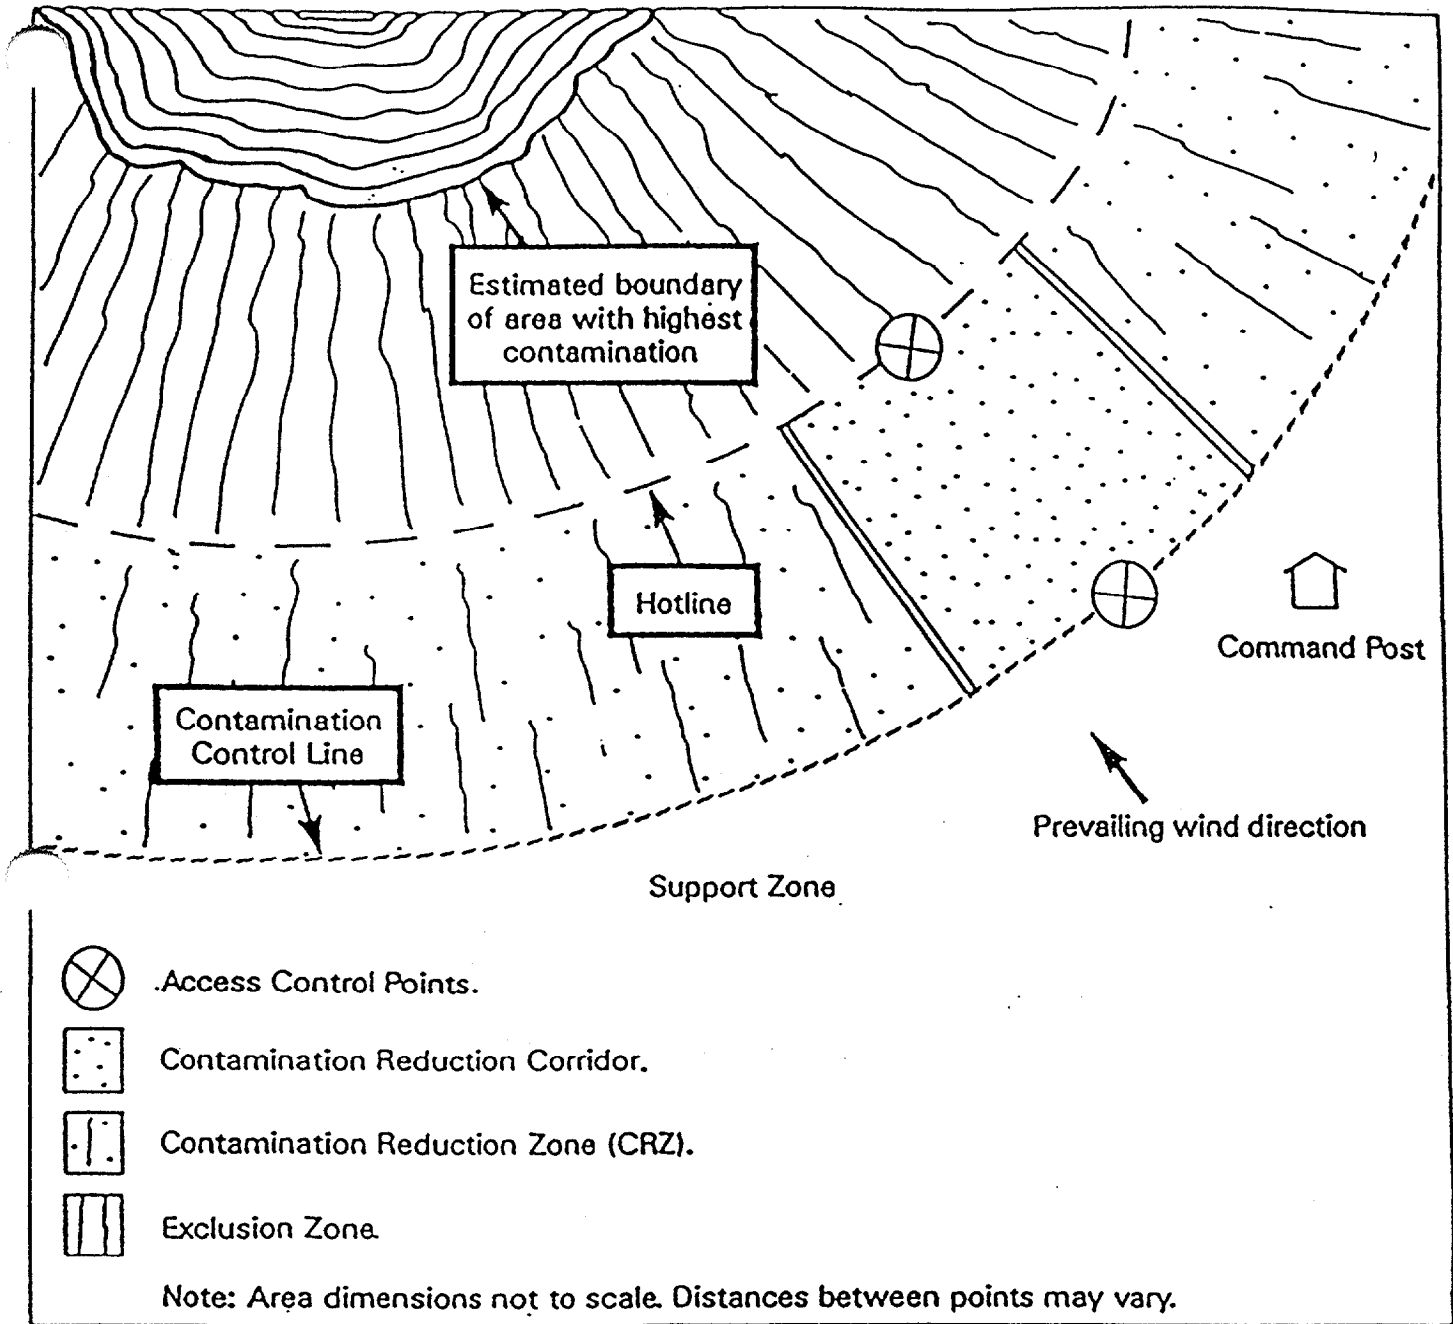

FIGURE 2
- CRZ - The area between the Work Zone and the Support Zone (located upwind of the site investigative activities). Refer to Figure 2 for a "Typical Contamination Reduction Zone Layout."